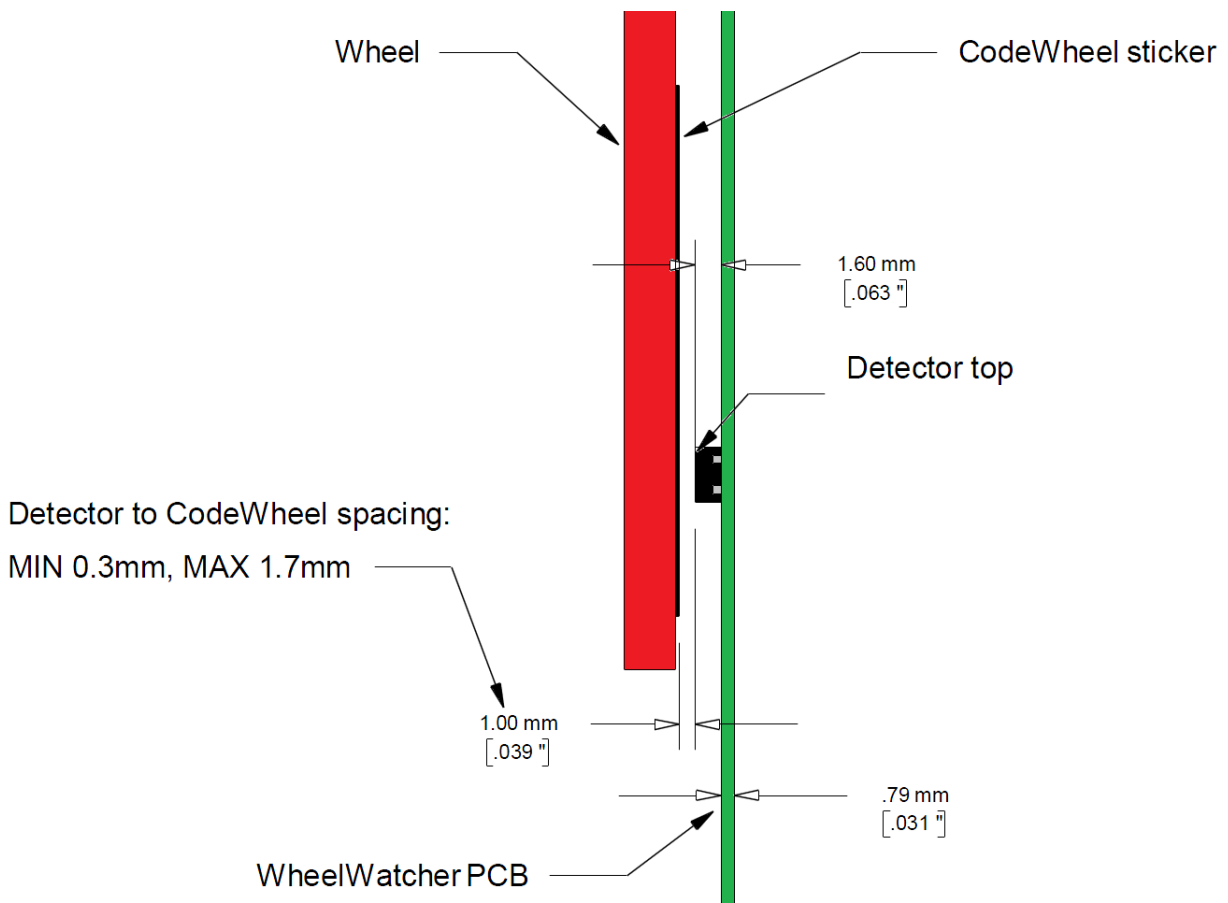

Figure 10: proper spacing
• Detector height (see figure 10 below)	1.50mm (0.059") MIN, 1.70mm (0.067") MAX (from top to PCB)